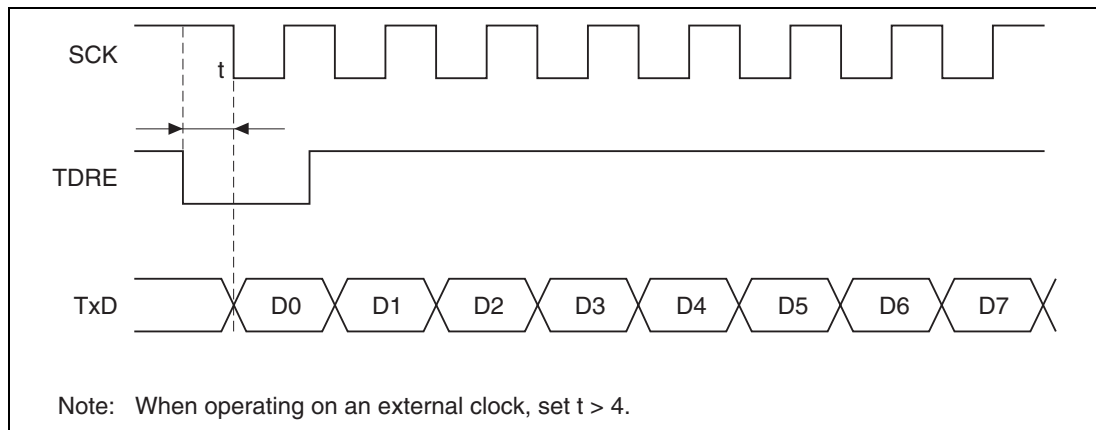

**Figure 15.26 Example of Synchronous Transmission by DMAC**
**When Using the DMAC:** When an external clock source is used as the serial clock, the transmit clock should not be input until at least 5 peripheral operating clock cycles after SCTDR1 is updated by the DMAC. Incorrect operation may result if the transmit clock is input within 4 cycles after SCTDR1 is updated. (See figure 15.26)